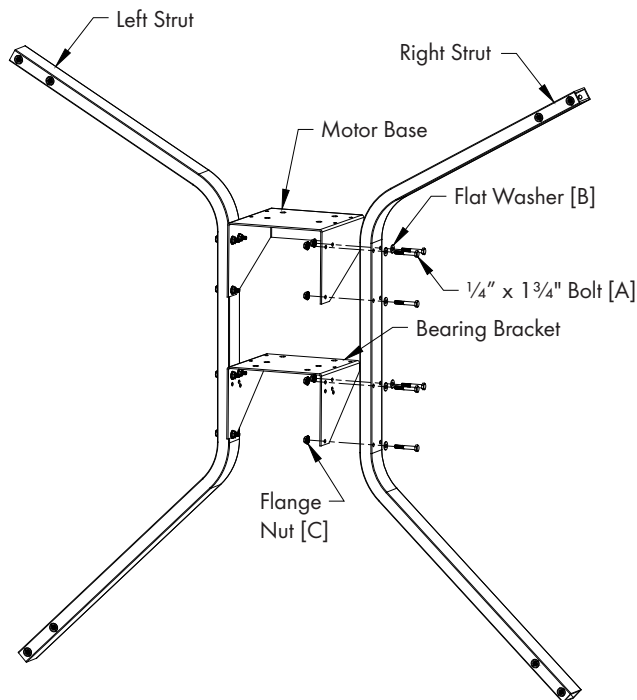

Figure 6A
With the Struts in front of you (same as Step 6B) fasten the Motor Base to Struts using (6) $1\frac{3}{4}$ " Bolts [A], Flat Washer [B] and Flange Nut [C]. The flanges on the Motor Base point downward and the front flange will be away from the Threaded Inserts. *See Figure 6A and 6B.*
Fasten Bearing Bracket to Struts using (6) $\frac{1}{4}$ " x $1\frac{3}{4}$ " Bolts [A], Flat Washer [B] and Flange Nut [C]. Bearing Bracket only has flanges on 2 sides, which should point downward. *See Figure 6A and 6B.* Be sure to finger tighten only.